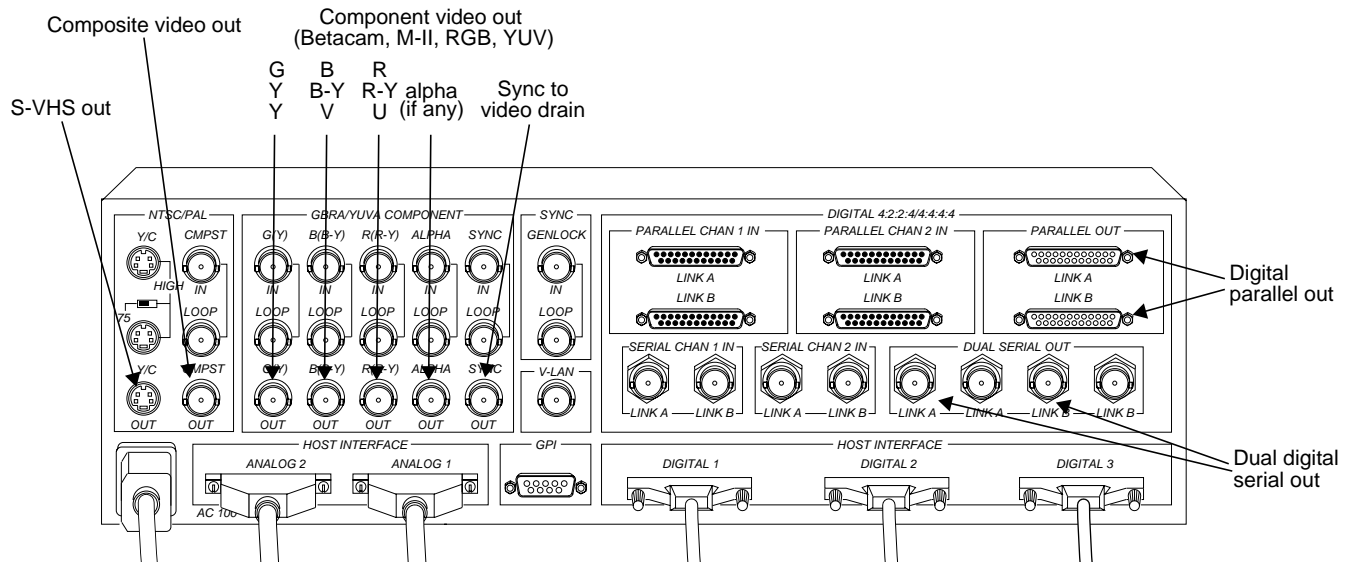

Figure C-17 Output Ports on the Sirius Video Breakout Box
1. Connect the drain equipment into the appropriate socket on the breakout box, as shown in Figure C-17.